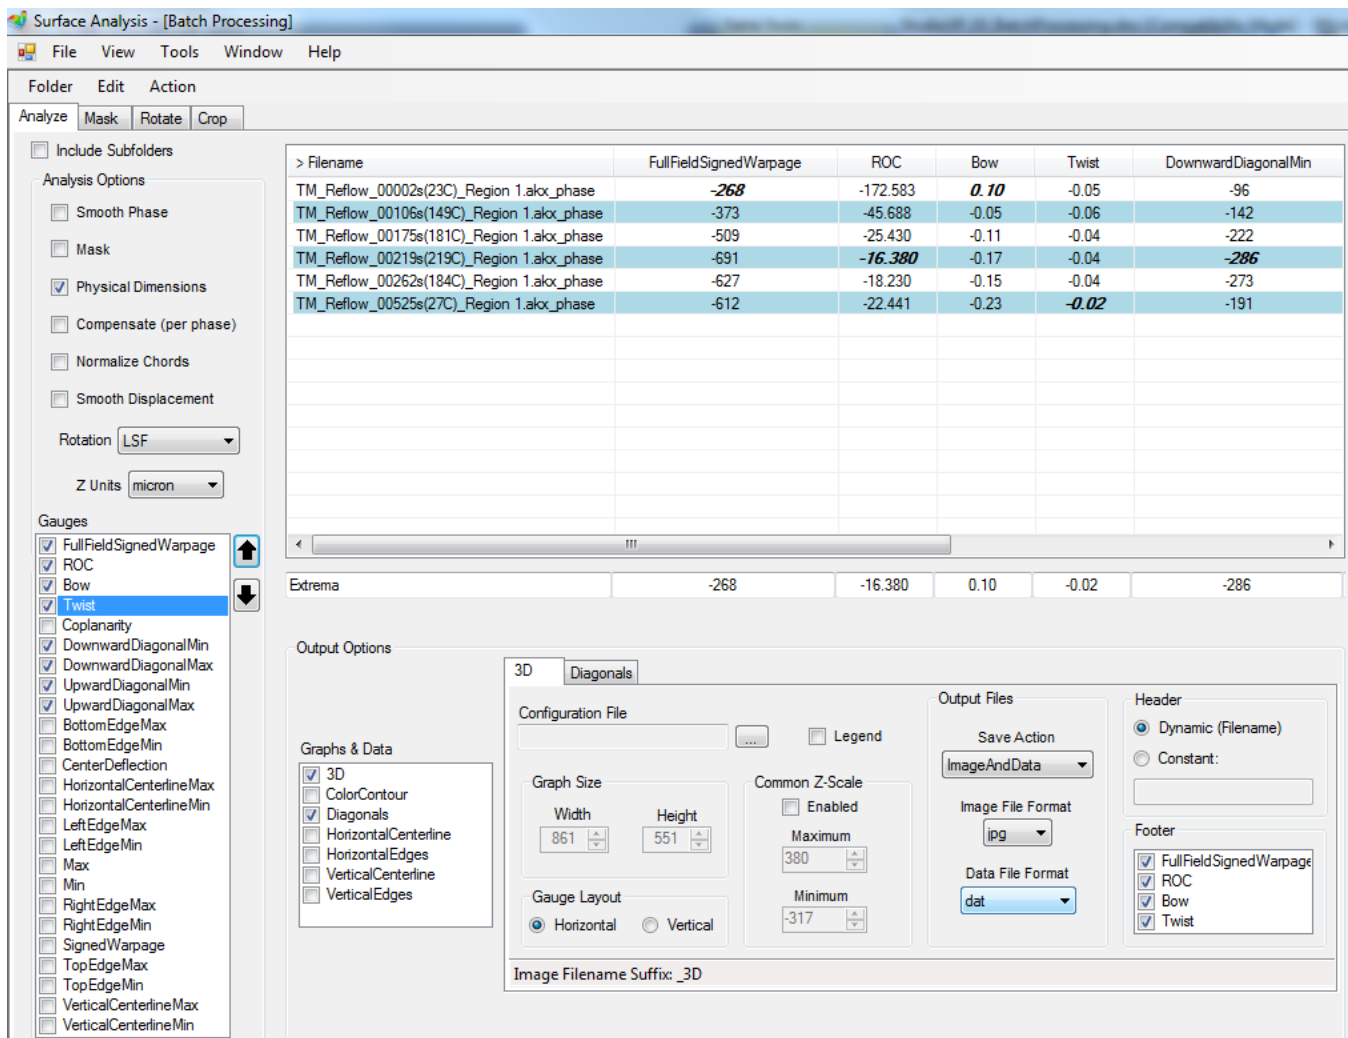

Figure 15. Batch Processing interface
- Studio: Surface Analysis – Batch processing interface is shown in Figure 15.
Along with all new gauges and preprogrammed chord plots, the new batch processing interface allows quick processing of folders worth of data with many analysis and display options available to the user. Unlike the legacy software, all batch processing functions are now centrally located. Taking a close look at Figure 15 above is the best way to understand all of the available options.
At the top of Figure 15 notice the tabs for Mask, Rotate, and Crop (often referred to as Partition). Each tab has a similar interface for consistency and ease of use. In all cases settings can be saved for use at a later date. Batch cropping and masking, in particular, each utilize files which are created when working with a single image. These files can be reused and shared among users.